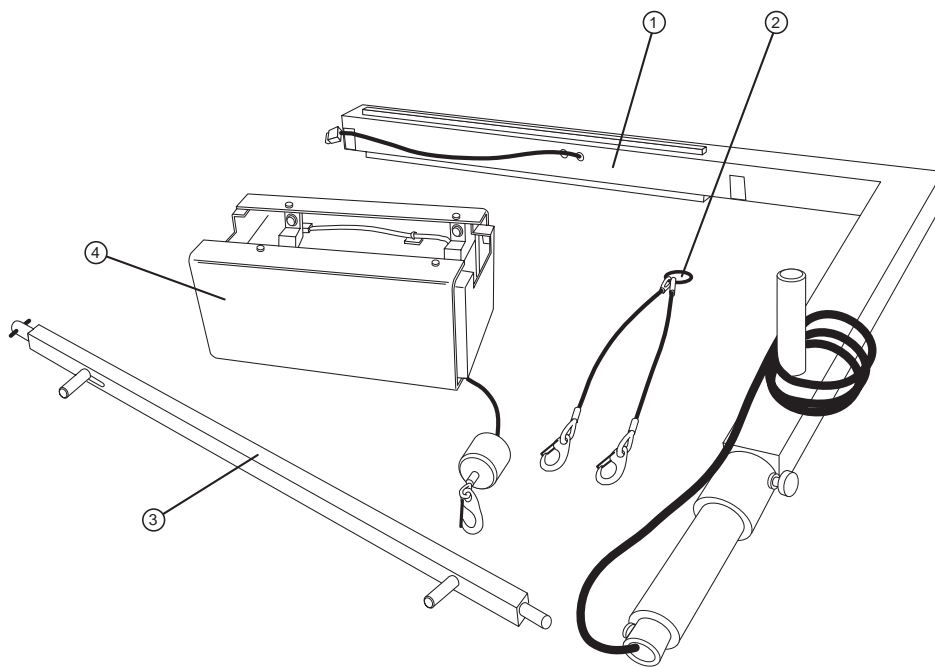

Figure 1-1 Crane inventory.
3. Lay out and check the contents against the items shown in Figure 1-1.